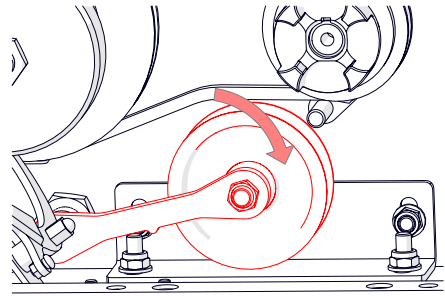

Fig. 14H - Adjust the pulley to avoid belt contact in disengaged state.
10. Adjust the pulley so when the drive lever is in the disengaged position, it rests on the support bracket (Fig. 14H), avoiding as much contact with the belt as possible.